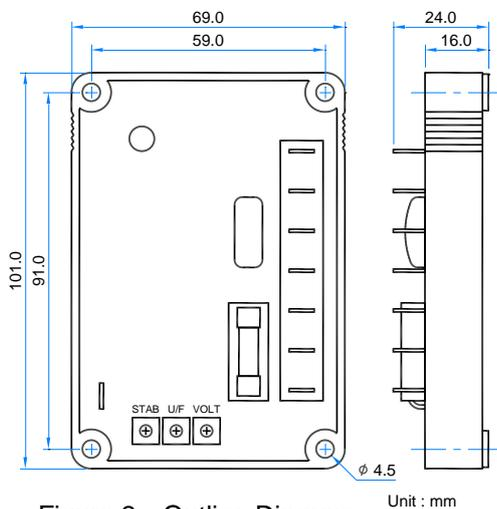

Figure 2 Outline Diagram
1. AVR can be mounted directly on the engine, genset, switchgear, control panel, or any position that would effects operation. For mounting, please see Figure 2.